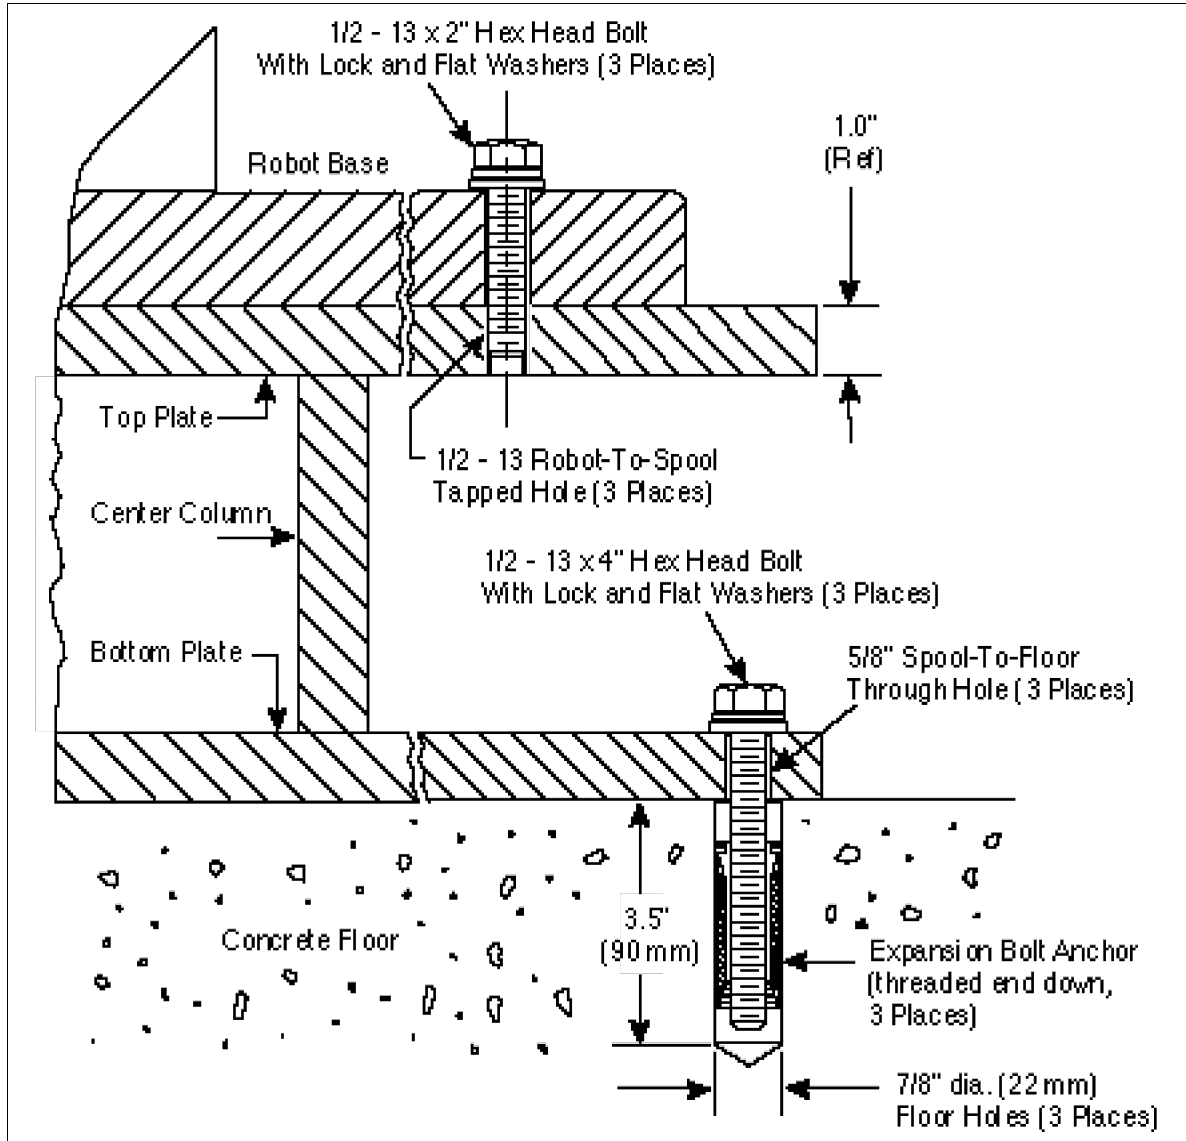

Figure 3-6. Mounting Spool-to-Floor Installation Detail
The following sequence details the installation of the robot-mounting spool to the floor. (See Figure 3-6.)
6. Insert an expansion bolt anchor into each of the three holes in the floor. Ensure that the threaded end of each bolt anchor is toward the bottom of each hole, as shown in Figure 3-6.